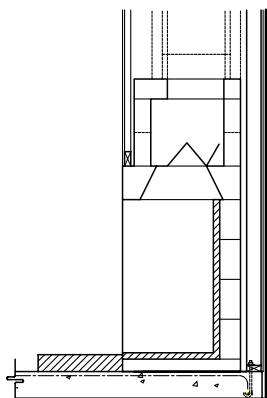

FIGURE 84
1. Slab on grade: standard residential, minimum four inch (4") thick, 2500 psi concrete foundations on properly compacted fill. This type foundation can support Isokern installations up to thirty feet (30') overall height (brickledge installations not included). (Figure 84)